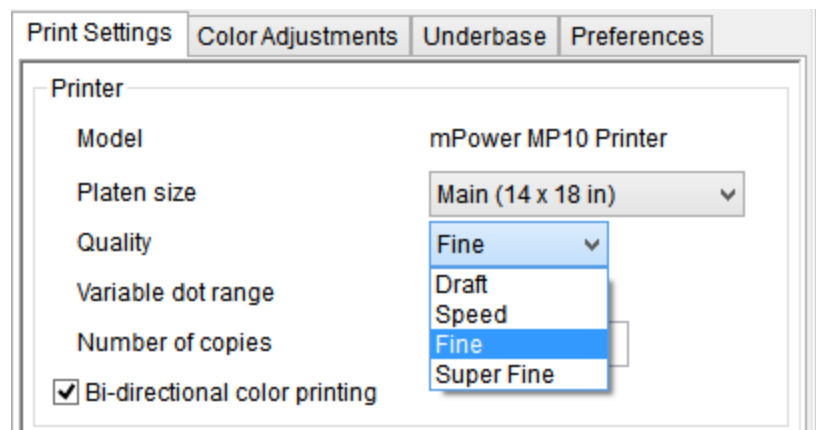

Figure 5.3j: Quality selection
- The Print Quality will be set to Fine by default. This will be the best overall setting for light garment printing. The other Print Quality settings are Draft, Speed and Super Fine. (Figure 5.3j)